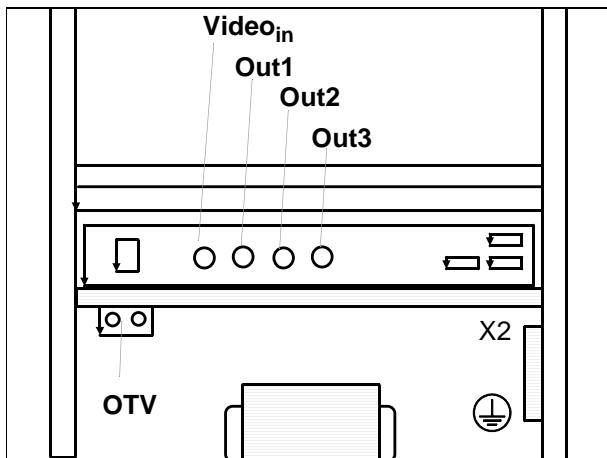

Fig. 1
- Install the video separator device (OTV) as indicated in Fig. 1. Use the mounting bracket and secure it with the two threaded bolts. The video sockets should point toward the back of the monitor trolley.
- Connect the power cable of the video separator device at terminals X2.1 and X2.2 (Fig.1).
- Connect the protective conductor to the protective conductor terminal strip (yellow/green) (Fig.1).